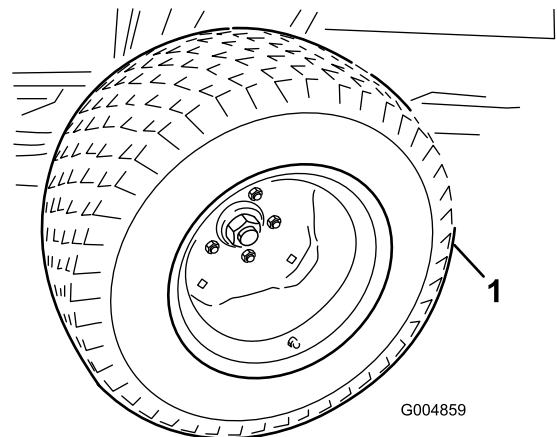

Figure 24
3. Install the summer drive tires (Figure 24)